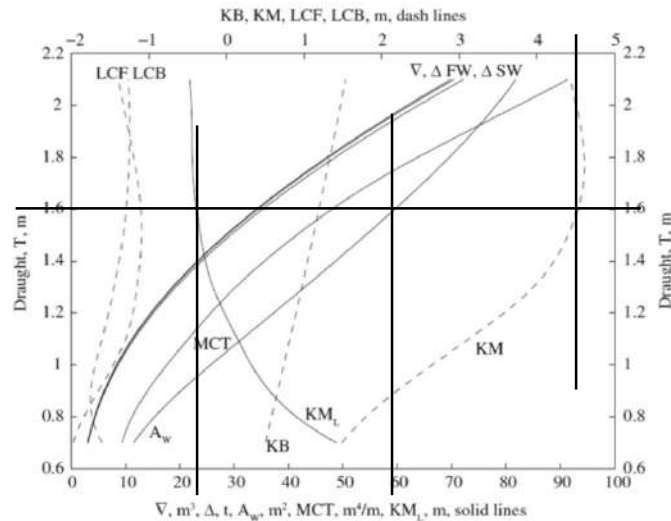

Figure 4.2 Hydrostatic curves of ship *Lido 9*
- Use Fig. 4.2 to find \overline{KM}_L (at $T = 1.6$ m). $\overline{KM}_L \cong 22.5$ m. Use that and \overline{KG} to draw \overline{GM}_L vs Draft.